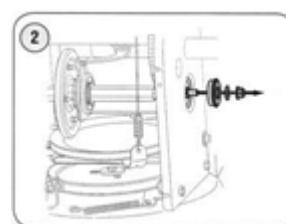

Figure 22
3. Carefully remove the hex nut and washer which secures. See Figure 22. The hex shaft to the snow thrower frame and lightly tap the shaft's end to dislodge the ball bearing from the right side of the frame.